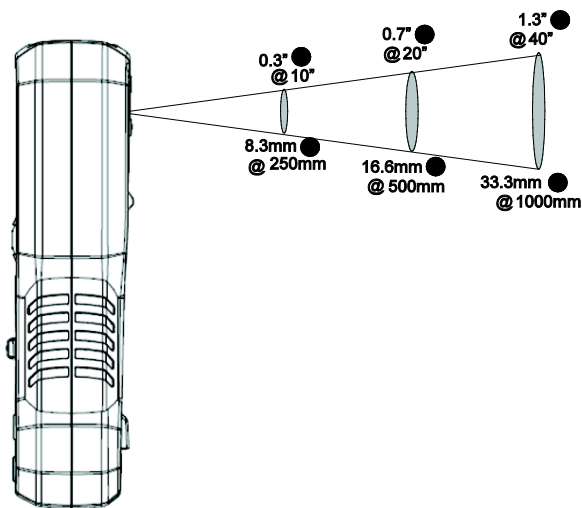

Fig. 8-2 Distance-to-Spot ratio 30:1
6. The Distance to Spot ratio for the imager is 30:1 meaning that the measurement spot is 30 times smaller than the distance from meter to spot (at 30", the meter 'sees' a target spot of 1"). **See Fig. 8-2.**